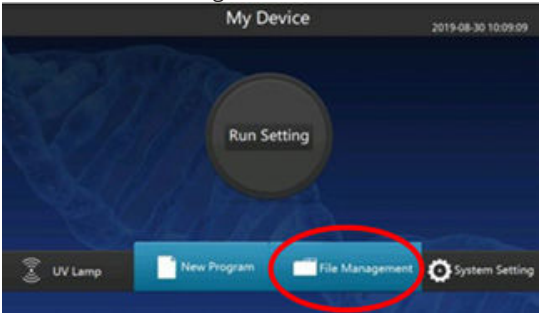

Figure 3: Main control interface of the CleanXtract 96 with File Management indicated in the red circle.
6. Press “File Management” as indicated in the red circle in figure 3.